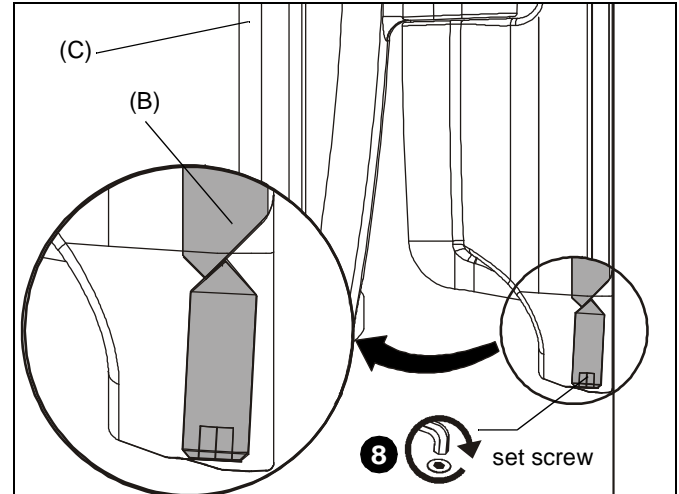

Figure 6
8. Tighten set screw using 5/32" hex key (H). (See Figure 6)
CAUTION: IMPROPER INSTALLATION CAN LEAD TO DISPLAY FALLING CAUSING SERIOUS PERSONAL INJURY OR DAMAGE TO EQUIPMENT! Make sure set screw engages back side of mounting dish on wall bracket (B). (See Figure 6)